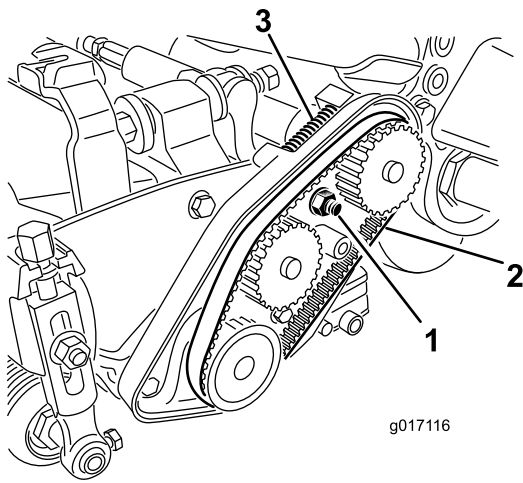

Figure 16
3. Loosen the bearing-housing nut (Figure 16).
12. Ensure that the compression spring is applying tension to the belt (Figure 16).
5. Remove the belt (Figure 16).